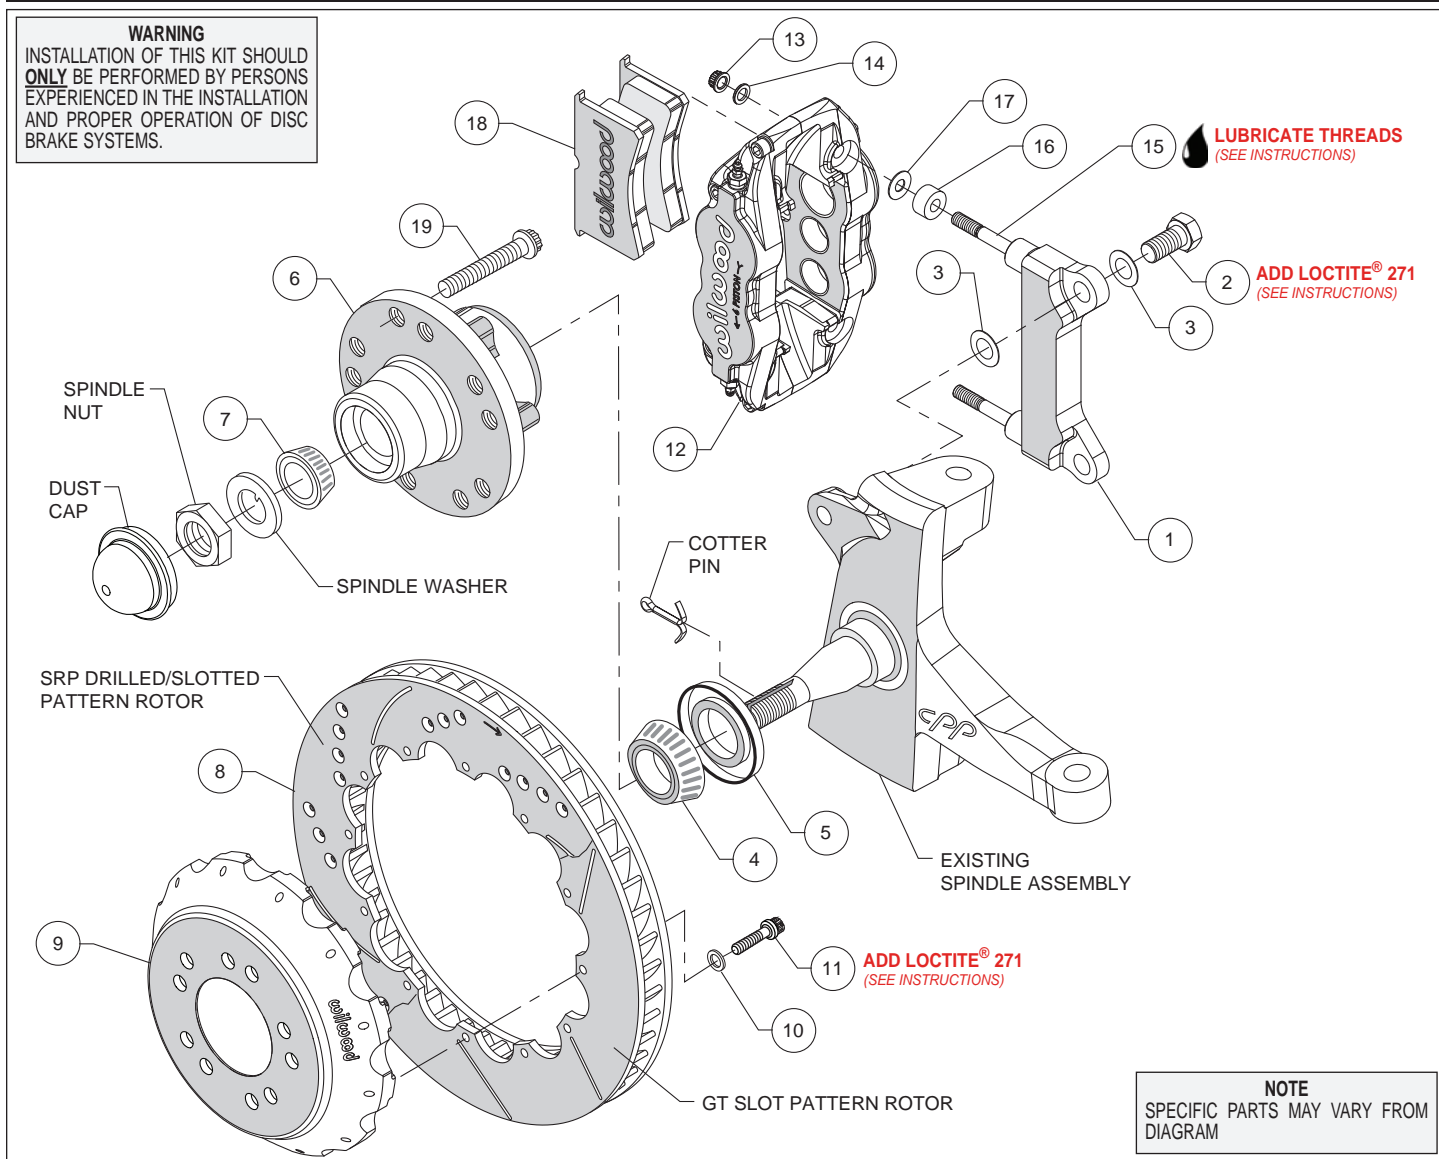
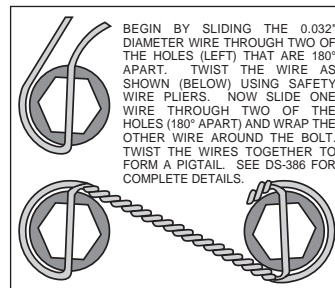

Figure 1. Typical Installation Configuration
Figure 3. Safety Wire Diagram
Assembly Instructions (numbers in parenthesis refer to the parts list and Figure 1 on the preceding pages):
- The caliper mount bracket (1) should initially be installed with clean, dry threads on the mounting bolts. Orient the bracket, as shown in Figure 1, and install using bolt (2) and washer (3). Initially place one .024" thick shim (3) on each bolt between the bracket and upright, Figure 1. Temporarily tighten the mounting bolts. **NOTE:** The bracket must fit squarely against the mount bosses on the upright. Inspect for interference from casting irregularities, machining ridges, burrs, etc. Later, after the caliper alignment has been checked, the mount bolts will be secured using red *Loctite*® 271.
- Install wheel studs (19) into the hub (6), Photo 1. Torque to 77 ft-lb. **NOTE:** There are two five lug patterns in the hub (5 x 4.75 and 5 x 5.00). Ensure the correct hub stud pattern is being used to fit the wheel application.
- Orient the rotor (8) and the hat (9) as shown in Figure 1 and Photo 4. Attach rotor to hat using bolts (11) and washers (10). Using an alternating sequence, apply red *Loctite*® 271 to the threads, and torque to 155 in-lbs. For an added measure of security, the bolts may be safety wired using standard 0.032 inch diameter stainless steel safety wire as shown in Figure 3. Refer to Wilwood's data sheet DS-386 (available at www.wilwood.com/Pdf/DataSheets/ds386.pdf) for complete safety wire installation instructions.
each stud as shown in Figure 1 and Photo 6. Mount the caliper (12) onto the bracket (1) using lock nuts (13) and washers (14), Figure 1. Ensure that the caliper is mounted so that the largest pistons are at the rotor exit end of the caliper, in relation to the direction of rotor rotation. Temporarily tighten the lock nuts and view the rotor through the top opening of the caliper. The rotor should be centered in the caliper, Photo 7. If not, adjust by adding or subtracting shims (3) between the bracket and the upright. Always use the same amount of shims on each of the two mounting bolts. Once the caliper alignment is correct, remove the bracket mounting bolts one at a time, apply red *Loctite*® 271 to the threads, and torque to 120 ft-lb.